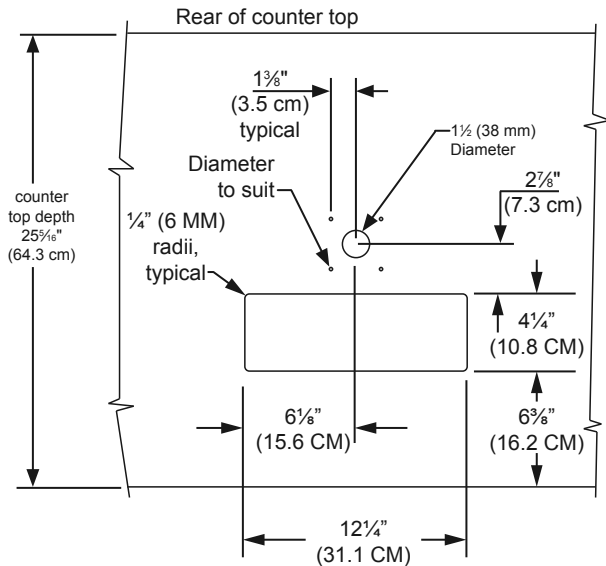

Figure 22
The cutout dimensions shown in Figure 22 are based on a $25\frac{5}{16}$ " (64.3 cm) deep counter top. Your counter top may be different than this and require other front to back dimensioning. Refer to the product dimensions on page 8 when determining the required dimensions.
4. If you are installing your keg refrigerator under a counter you will need to drill 5 holes in the counter top to mount the tower. The first hole is a $1\frac{1}{2}$ " diameter hole located at the center of the tower for the beer line, locate approximately $13\frac{1}{2}$ " (34.3 cm) from the front edge of the counter top (based on a counter top depth of $25\frac{5}{16}$ "). Next drill the 4 tower mounting holes per the dimensions in Figure 22. The hole diameter is dependent on the counter top material and if screw anchors are required. The screws supplied are in the literature pack and are a #10 x 1" type AB stainless steel screw. Mark and cut the rectangular cut out for the drain sump. After the holes are drilled and the keg refrigerator is in place under the counter top feed the beer line through the tower gasket, the $1\frac{1}{2}$ " hole in the counter top and the hole in the top of the keg refrigerator. Mount the tower to the counter top with the 4 screws provided.